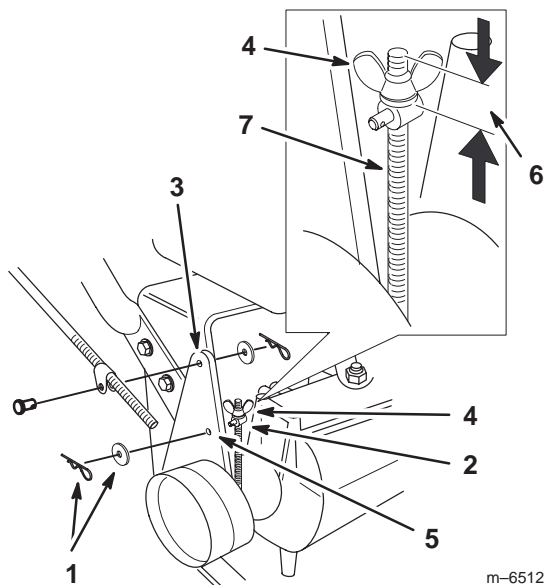

Figure 40
Note: For the initial adjustment, adjust the wing nut until it is 1-1/4 inches from the top of the rod (Fig. 40).
5. To adjust the brake remove the hair pin cotter and washer from the brake lever and trunnion (Fig. 40).
8. Install the trunnion into hole **F** (Fig. 40). Tighten the wing nut.
9. Secure trunnion to brake lever with washer and hair pin cotter (Fig. 40).